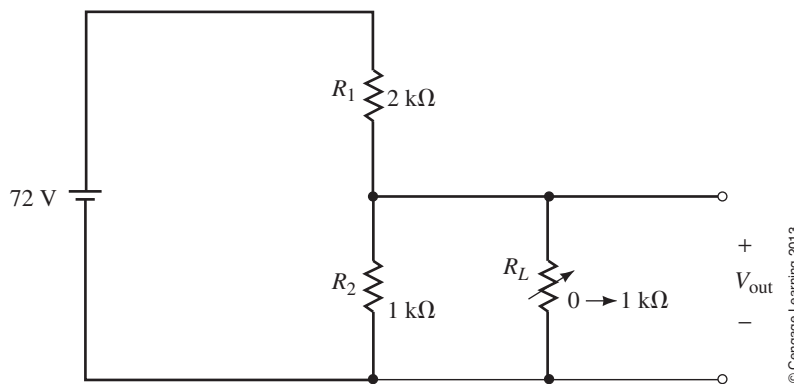

FIGURE 7-73
34. Given the circuit of Figure 7-73, calculate the output voltage V_{out} when $R_L = 0\ \Omega$, $500\ \Omega$, and $1000\ \Omega$.